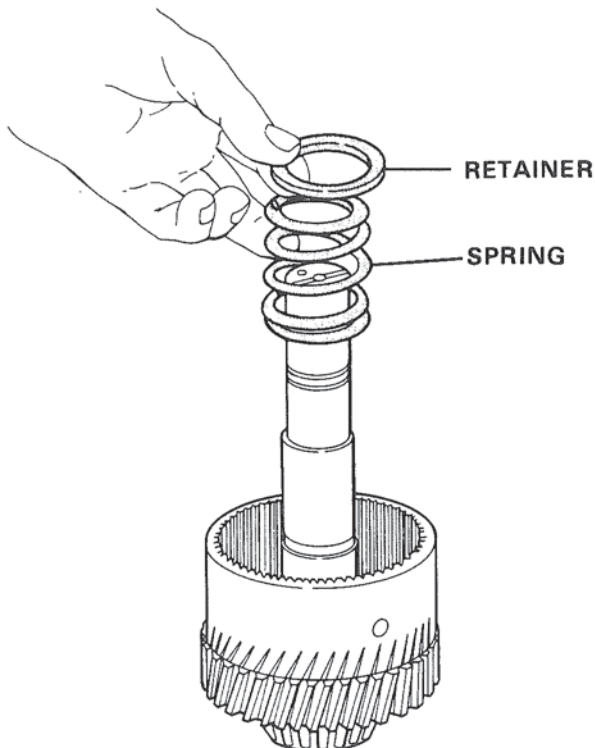

Figure 28. Removing Clutch Piston Return Spring and Retainer.
6. Remove the clutch spring retainer and clutch piston return spring from the clutch shaft. Figure 28.